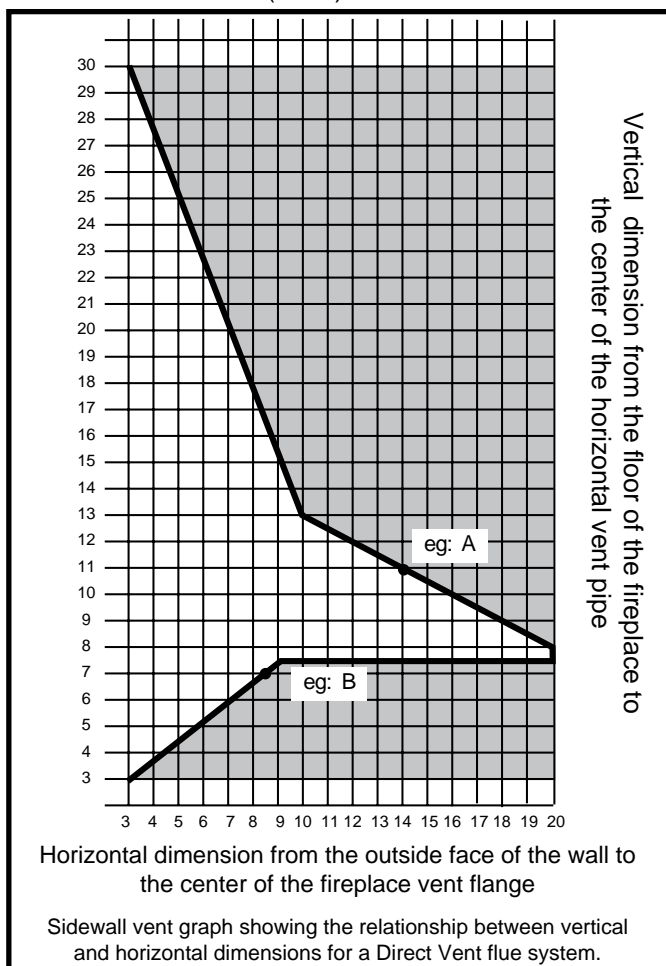

Fig. 12 Sidewall venting graph. (Dimensions in feet)
1. Determine the height of the center of the horizontal vent pipe exiting through the outer wall. Using this dimension on the Sidewall Vent Graph (Fig. 12), locate the point intersecting with the slanted graph line.